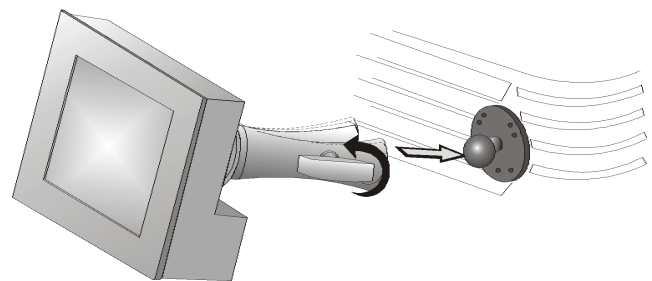

Figure 2-7
1. Loosen the mounting arm just enough for the end to fit over the ball joint located on the rear panel of the projector. Figure 2-7